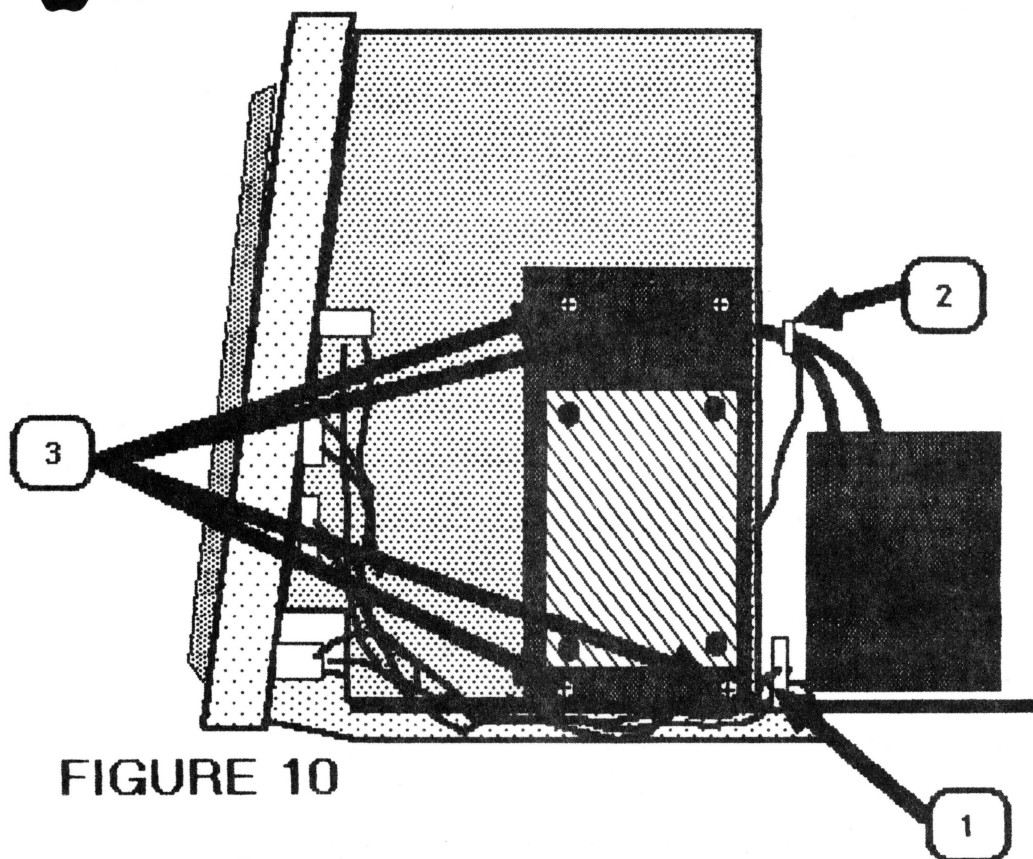

FIGURE 10
5. Release the wires from the plastic cable clamp. (Figure 10, #1.)
6. Use a pair of diagonal cutters to cut the cable tie (Figure 10, #2) that holds the power supply wires together.
7. Remove the four Phillips screws from the P/S mounting plate (Figure 10, #3).
4. Set the wires back in the cable clamp from which they were removed (Figure 10, #1).